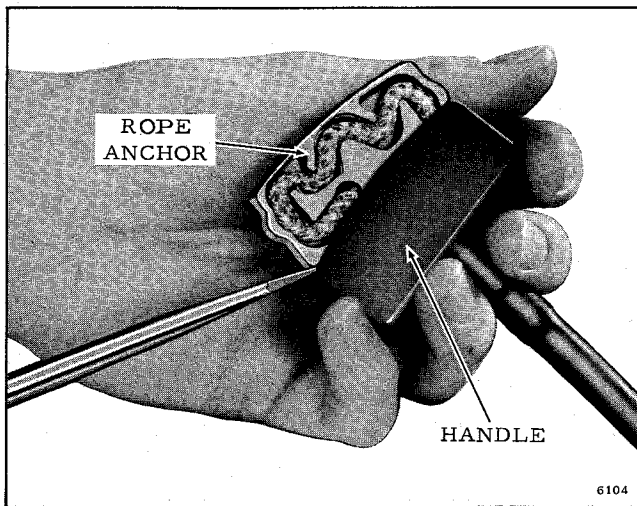

Figure 8-4. Removing Rope Anchor
- Pry out rope anchor and remove handle. Release knot allowing pulley to recoil slowly until spring tension is reduced. See Figure 8-4.